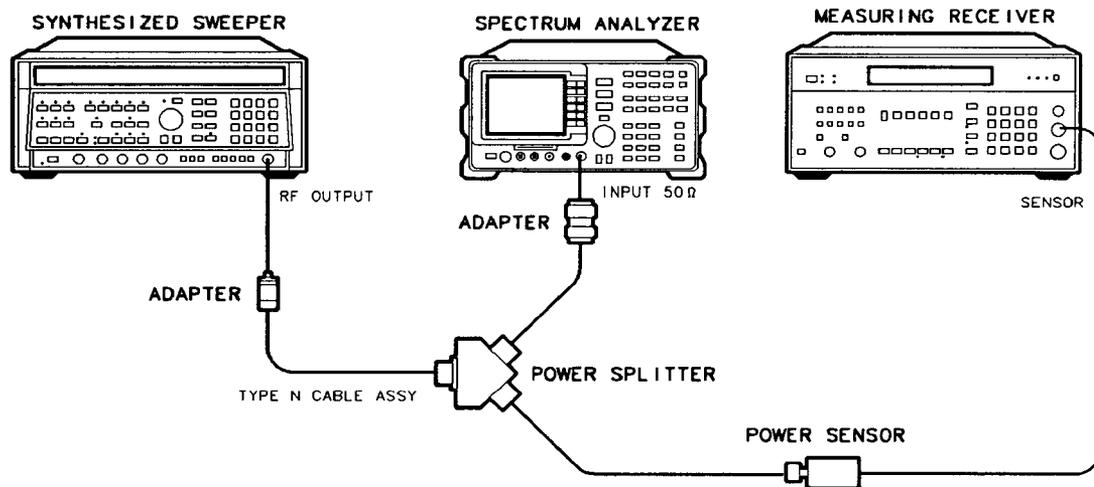

Figure 2-27. Frequency Response Setup
2. Connect the equipment as shown in Figure 2-27.